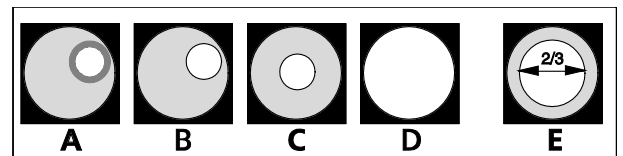
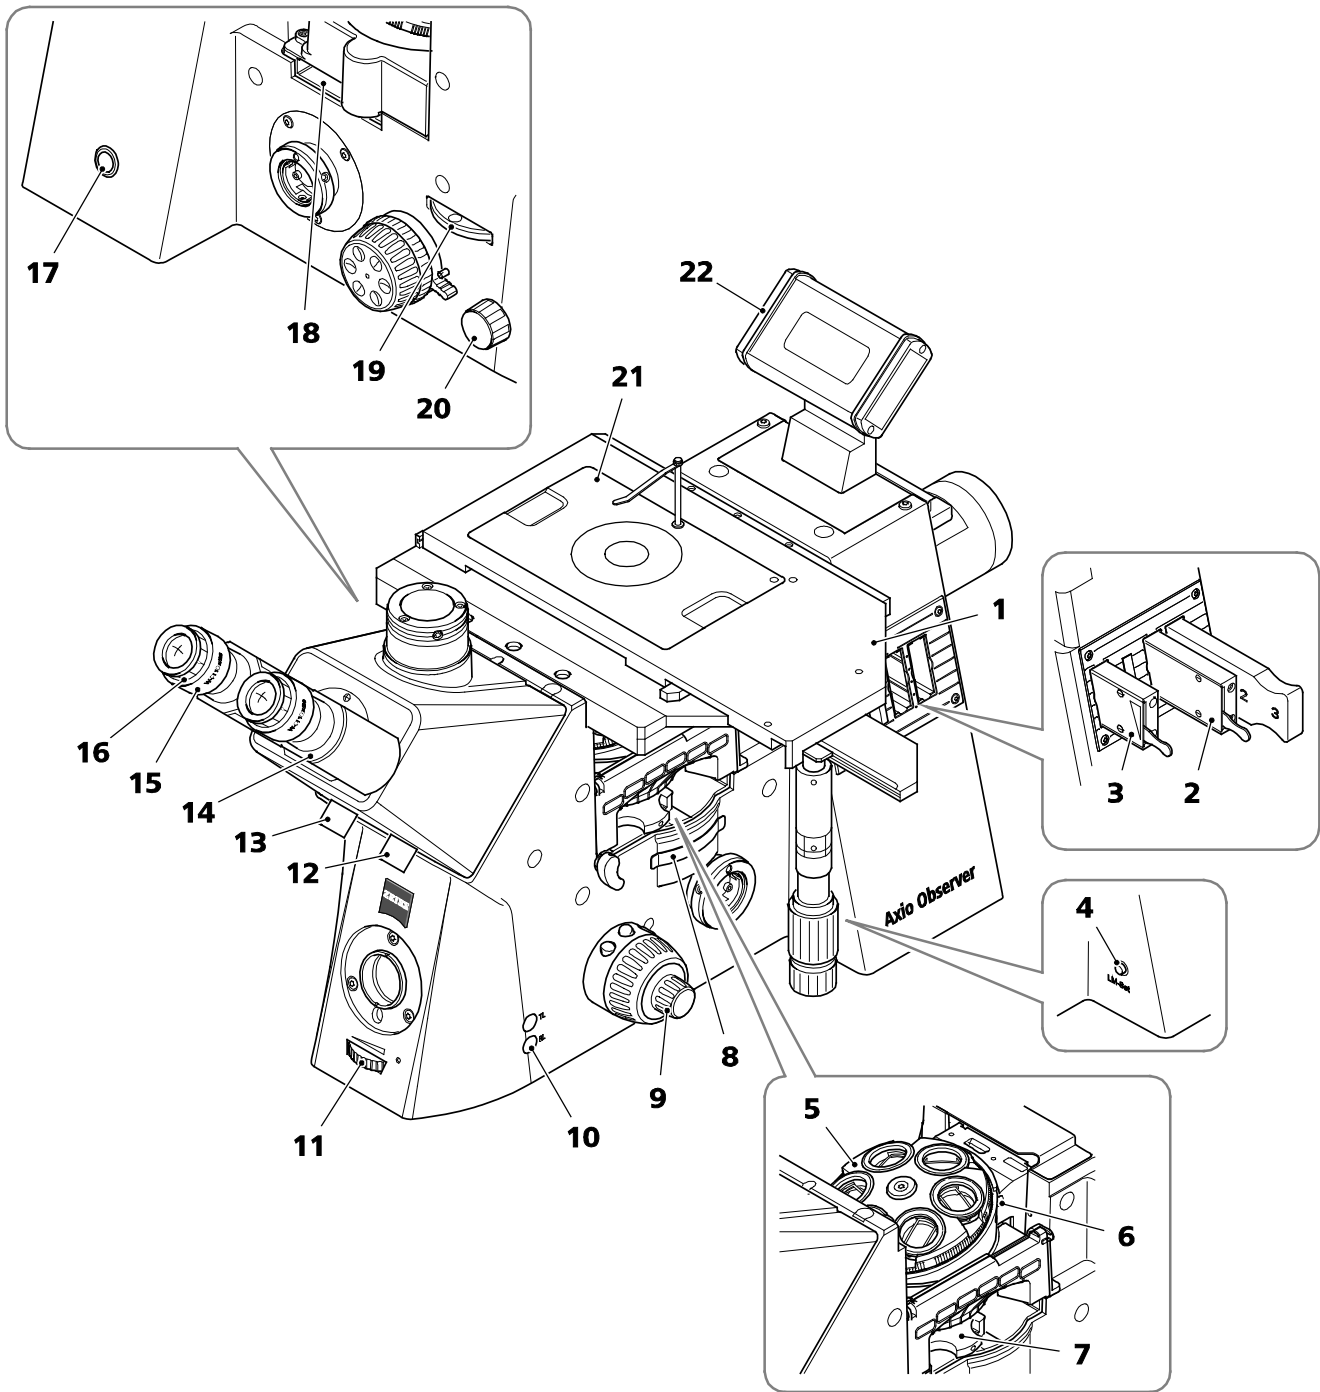

Fig. 84 Diaphragm settings in reflected light bright field acc. to KÖHLER
Fig. 85 Axio Observer 5 materials (example)
- Prepare the microscope and switch it on in accordance with section 4 (Fig. 85/17).
- Select the objective with the lowest magnification (e.g. 10x) on the nosepiece (Fig. 85/5). Set factor 1x on the selector wheel (Fig. 85/8) of the Optovar turret (selector wheel only available on 5 and 5 materials stands).
- Open the aperture diaphragm and luminous-field diaphragm completely; to do this, move the lever of the sliders (Fig. 85/2, 3) upwards to the mechanical stop.
- Swivel in the reflector module **H** for bright field (or **DIC**) on the reflector turret (Fig. 85/7) using the adjustment ring.
- If required, remove analyzer slider (in Fig. 85/18) or switch to free light path.
- Turn selector wheel for sideport right / left / vis (Fig. 85/19) to position 100 % vis (visual .
- Set beam splitting ratio to 100 % vis (Fig. 85/12) on the tube. Remove the Bertrand lens from the optical path (where used). Move the rotary / sliding button (Fig. 85/13) to the 100 % vis position (.
- Place a high-contrast specimen on the microscope stage (Fig. 85/1). Set the binocular section (Fig. 85/14).
- Use the coarse / fine focus drive (Fig. 85/9) to focus on the selected detail of the specimen. Should no light be visible in the eyepieces, switch on the microLED or HAL 100 illuminator using the RL switch (Fig. 85/10).
- Set the light intensity to a comfortable level using the illumination control wheel (Fig. 85/11).
- Close luminous-field diaphragm (Fig. 85/3) until it is visible (Fig. 84/A).
- Use the focus drive (Fig. 85/9) to refocus on the edge of the luminous-field diaphragm (Fig. 84/B).
- After this, center the luminous-field diaphragm by adjusting both adjusting screws in the slider (Fig. 85/3; using a 3 mm ball-headed screwdriver) (Fig. 84/C). Then open the luminous-field diaphragm until the edge of the diaphragm just disappears from the field of view (Fig. 84/D).
- Remove one eyepiece from the eyepiece tube (or swing in Bertrand lens) and set aperture diaphragm (Fig. 85/2) to approx. 70-80% of the diameter of the objective exit pupil (Fig. 84/E). The settings required for optimum contrast depend on the specimen.
Key to Fig. 85: